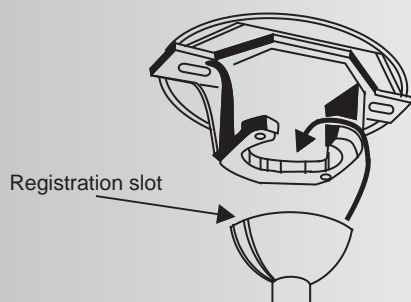

Fig. 8
Step 5. Lift the motor assembly into position and place the hanger ball into the ceiling mounting bracket. (Fig. 8)
Rotate the entire assembly until the "Check Tab" has dropped into the "Registration Slot" and seats firmly. (Fig. 8)